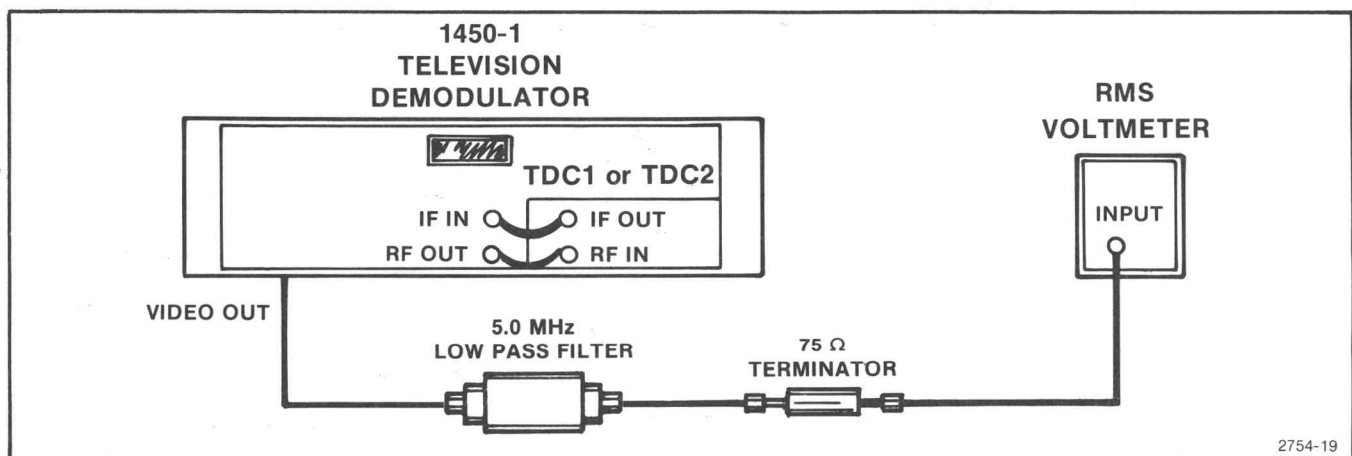

Fig. 4-8. Test Setup for Measuring Signal-to-Noise Ratio.
b. Connect the test equipment as shown in Fig. 4-8.